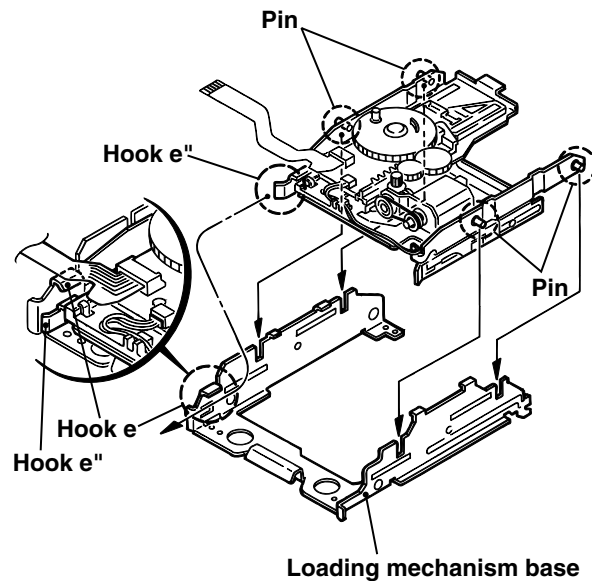

Fig.24
8. Reattach the UD base while engaging the four pins on both sides of the UD base to the notches of the loading mechanism base and placing the edge (marked **e''**) of the cartridge holder assembly under the hook **e** of the loading mechanism base. (Fig.24)